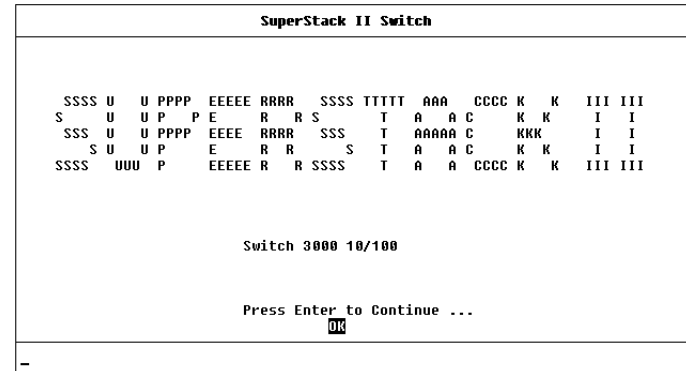

Figure 3-1 Main Banner
- 1 At your terminal, press [Return] one or more times until the Main Banner is displayed (shown in Figure 3-1). The console port detects the line speed (baud rate) from these keystrokes and defaults to: